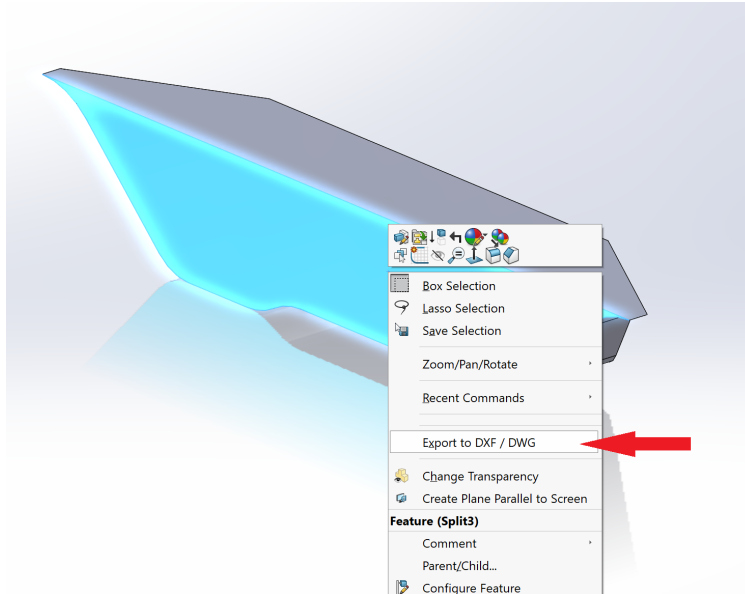

Figure 1.24: Export Side Profile
- Right click on the cut plane and select “Export to DXF/DEG” to export the projection of the side profile as shown in fig 1.24 below: